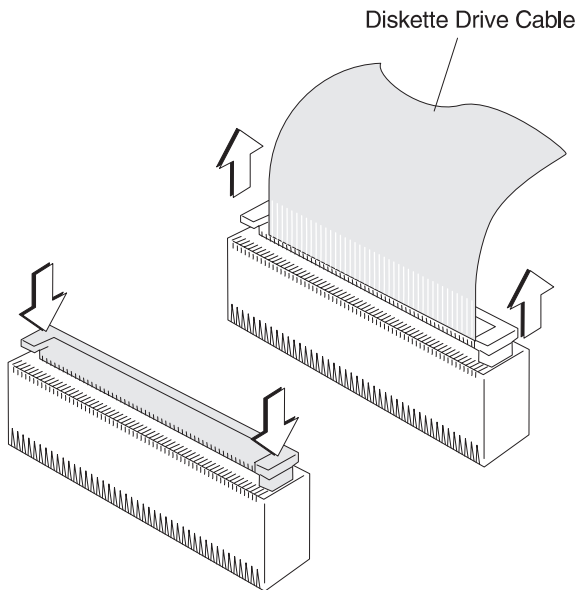

Figure 3-36. Removing the Diskette Drive Cable
**Note:** The diskette drive cable connector does not unplug from the system board. See Figure 3-36.